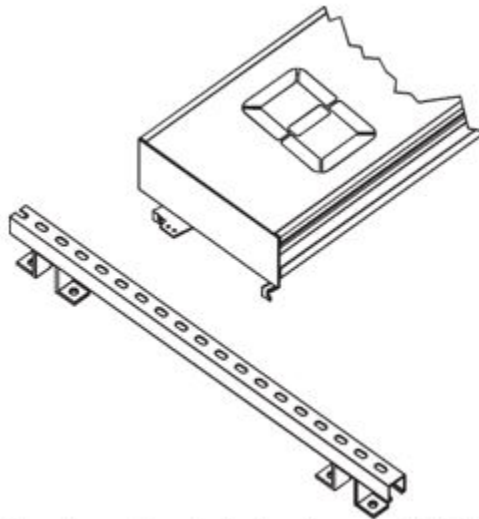

Figure 3-L: Mount scoreboard display line on slotted struts
- 6) If you are installing a two-column (side-by-side) scoreboard, complete steps 1- 5 for the left column. Repeat the procedure for the right column, but do not loosen the center slotted strut as that will change the left column as well. See Figure 3-N for an example of side-by-side mounting.